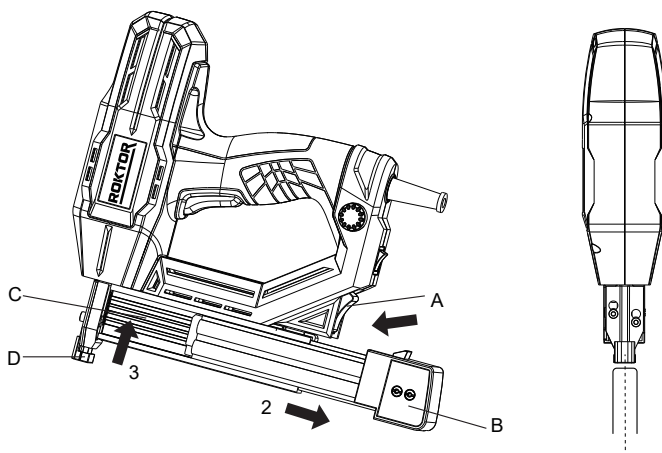

Fig. 1
1. LOADING STAPLES/ NAILS (See Fig. 1 & 2)
- The staple strip is loaded with the crown aligning with the top line of the magazine C (See Fig. 1)